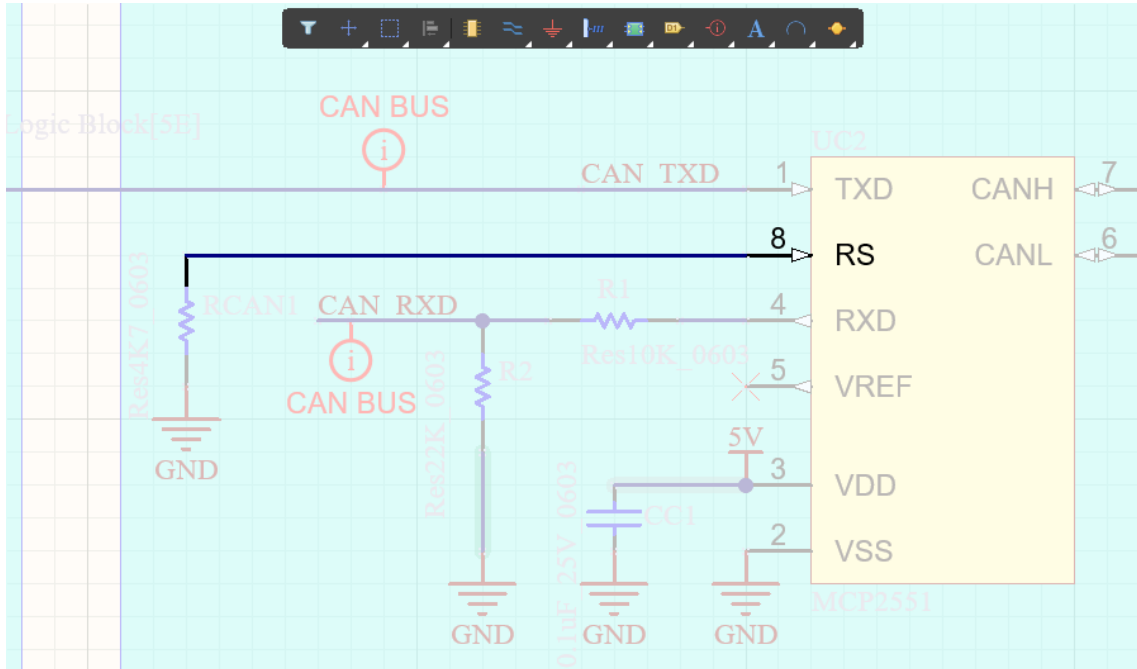

Figure 11. Input of an IC with no driving source
36. The next group of errors for Net <Net ##> has no driving source occurs when an input of an IC is connected to a passive component, as shown in Figure 11 below. (Net NetRCAN1\_2 has no driving source (Pin RCAN1-2, Pin UC2-8)).